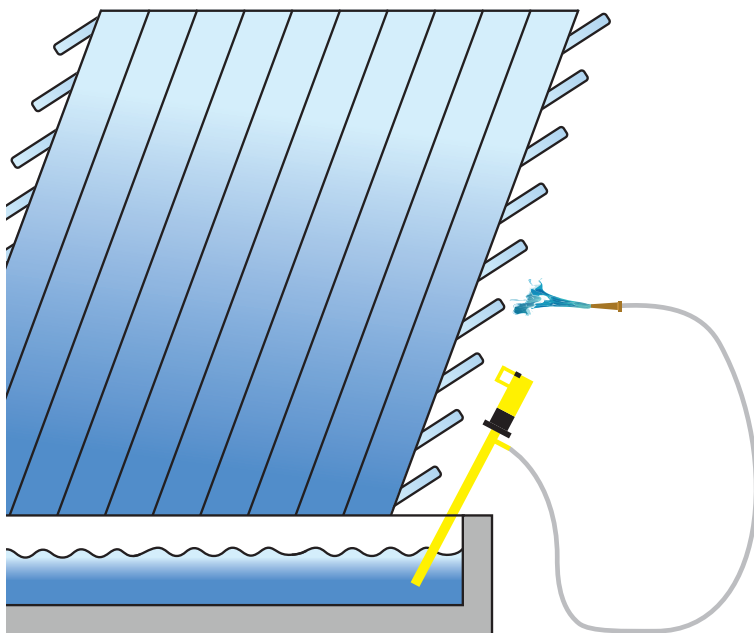

Fig. 1. Spraying diluted **RYDLYME** from cooling tower basin using **75LDP** to dissolve remaining scale deposits on fill and other areas.
9. Once the **RYDLYME** is in the tower system, allow to circulate for prescribed duration. Optionally, place **75LDP** suction tube into the cooling tower basin. Attach a spray nozzle to the discharge hose to shower **RYDLYME** onto restricted surfaces. Carefully shower so **RYDLYME** returns to the cooling tower basin to continue the circulation. Additional PPE such as splash goggles and coveralls are recommended for this method. (See fig. 1).